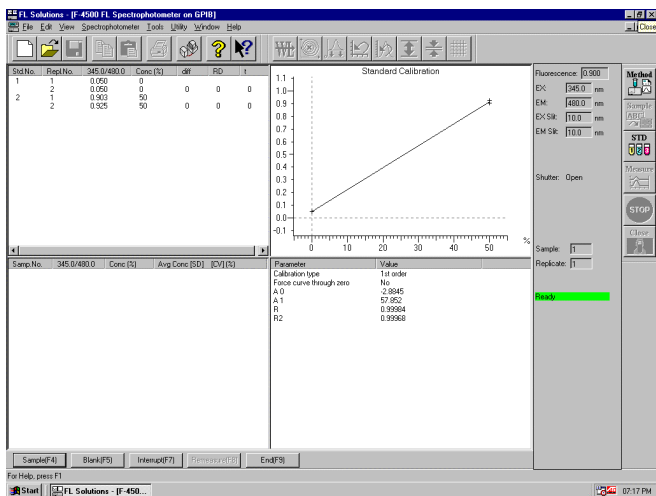
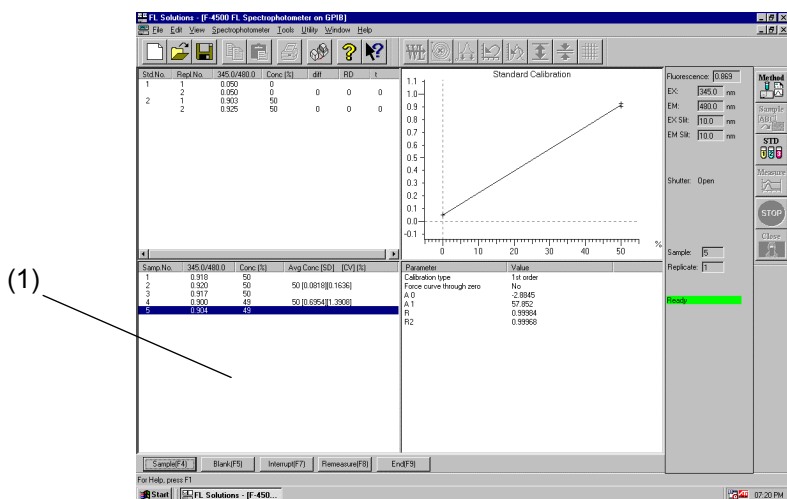

Fig. 8-4
Fig. 8-5
By clicking **OK** with the mouse, a calibration curve is drawn and then samples can be measured. When the window in Fig. 8-4 appears, you should press the sipping lever. Measurement results appear at the area indicated by (1) in Fig. 8-5.